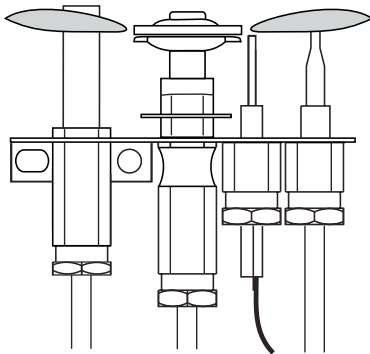

Figure 27. Pilot Burner
2. Adjust pilot key to provide properly sized flame. (See Figure 27).